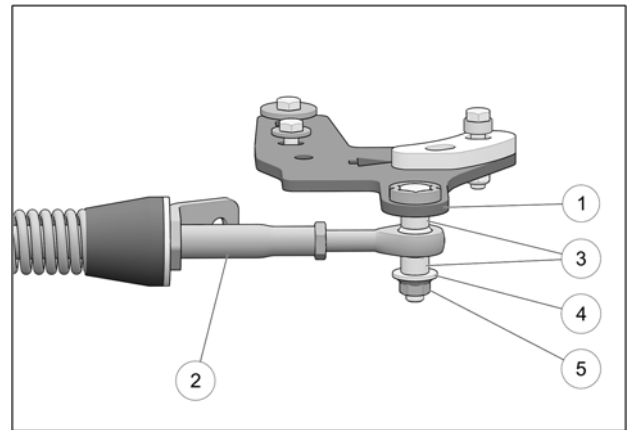

Fig. 11
11. Attach stabilizing rod (2) to anchor bracket (1), using spacer bushings (3), flat washer (4) and nut (5). Torque to 70 N•m [52 lb•ft]. See Fig. 11